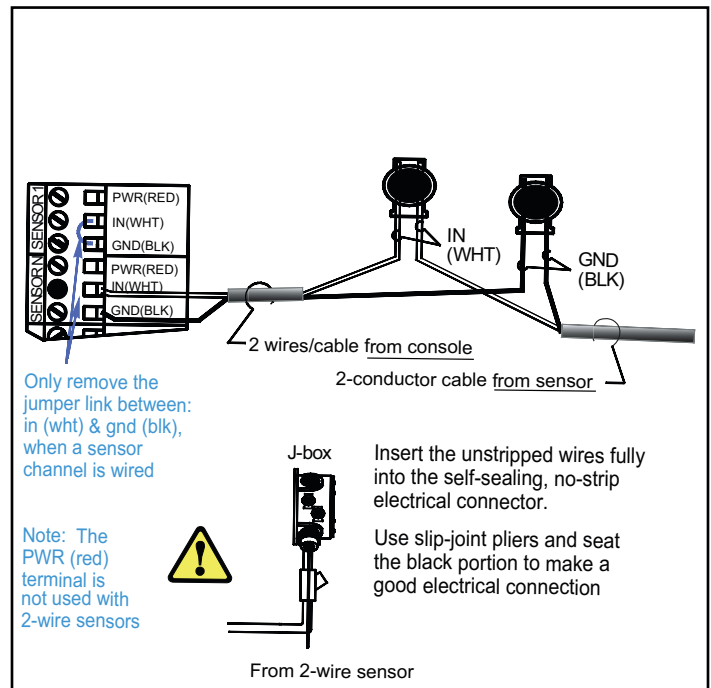

Figure 3: Sensor Wiring
5. Tighten cord-grip fitting at the junction box and trim the wire / cables within the junction box to a 6 or 8 inch (15 or 20 cm) length, then splice the sensor and console cable / wires together as shown in Figure 3.
Reference the ATG Installation Manual and see **Figure 3** (above) for TSP-HLS sensor wiring details. The two-wire TSP-HLS sensor does not have a red (power) conductor, therefore, the PWR (RED) interface terminal at the console is not used. *If a 3-conductor Alpha cable is used, the red conductor can be clipped or taped back on both ends.*